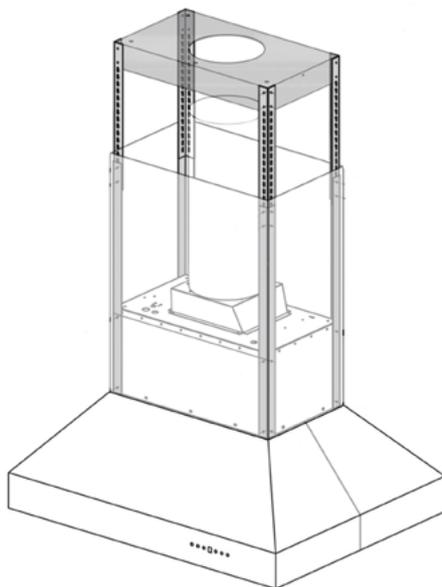

Figure 6
- Slide the chimney piece onto the angle brackets attached to the range hood. *Figure 6.*